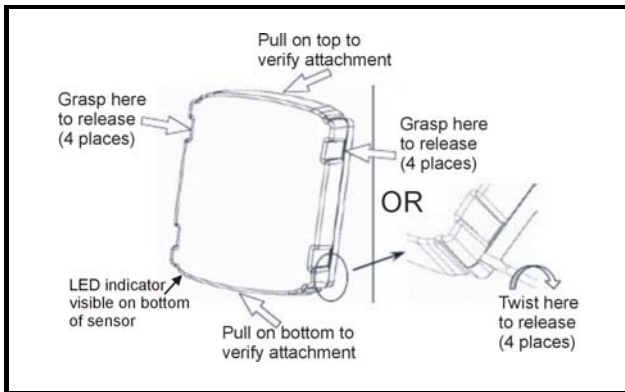

Figure 2-2 - Attaching and Removing Cover
6. Verify the cover is securely attached to the base by pulling on the top and bottom of the cover as shown in *Figure 2-2*.
NOTE: To remove the cover, grasp it along the recesses and pull it away from the base (*Figure 2-2*). Alternatively, place a screwdriver into the slots indicated in *Figure 2-2* and twist.